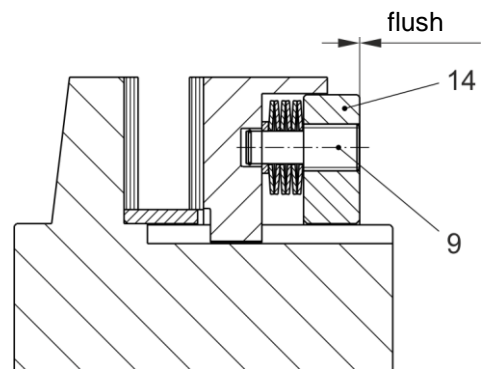

Fig. 24
4. Then the cup spring supporting bolts (9) are turned in evenly, in steps of approx. 1/4 turns, until they are flush with the adjusting nut (14) (Fig. 24).